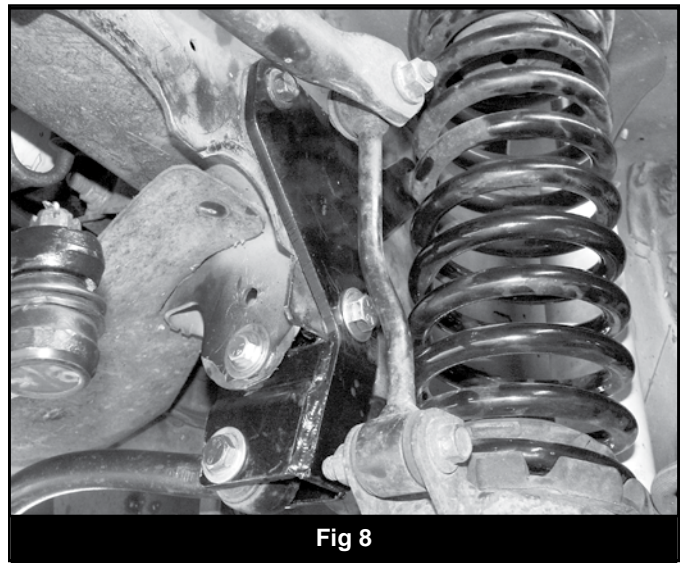

Fig 8
18. Slide the provided track bar bracket (01491) in place (Fig 8). Position the provided $\frac{3}{16}$ " thick spacer washers (BP #727) between each of the upper mounting holes in the bracket and the body. Attach the bracket through the motor mount holes with 10mm x 120mm bolts and $\frac{3}{8}$ " USS flat washers (BP #727). Leave hardware loose.